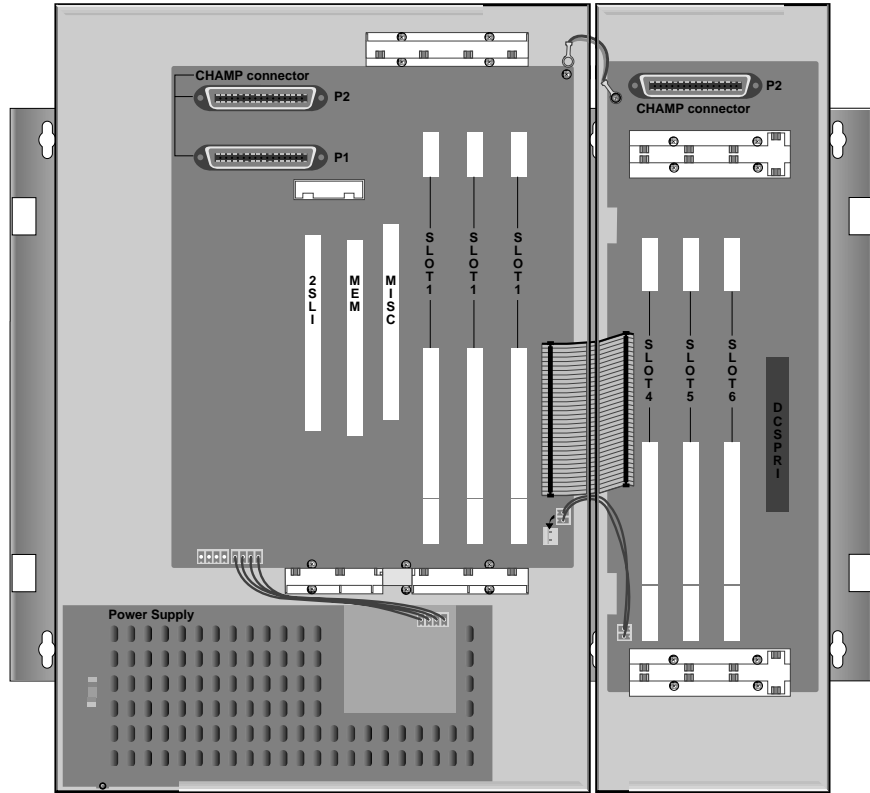

FIGURE 2-5 ASSEMBLE BETWEEN BASIC KSU & EXP.CABINET(1)
3. Move Expansion cabinet to basic cabinet and attach it via groove. (See Figure 2-5)